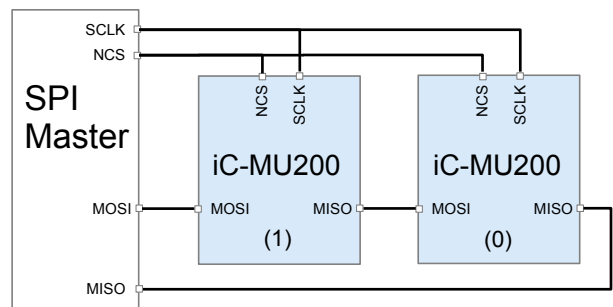

Figure 24: Example configuration with 2 Slaves (daisy chain)
to switch their RACTIVE and PACTIVE registers between MOSI and MISO and set them to 0 (slaves in daisy chain connection, Figure 24). The register and sensor/actuator data channels can be switched on and off with data bytes following the OPCODE.
An example for a daisy chain wiring of 2 SPI slaves is given in Figure 24. In order to do register communication (**Read REGISTER (single)**, **Write REGISTER (single)**, **REGISTER status/data**) with e.g. slave (1) the register communication has to be enabled explicitly for this slave and disabled for slave (0) with command **ACTIVATE** and parameter **RACTIVE**.